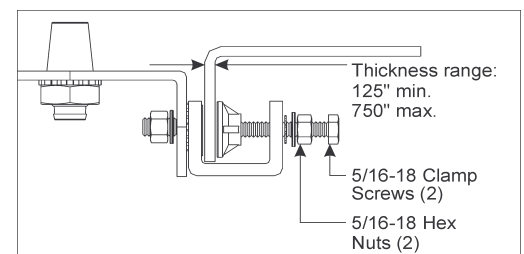

Figure 8- Mounting Location
11. Loosen two screws and two hex nuts in U-Bracket assembly. Note: Installation on tubular surface is NOT recommended. Insert Air Dam Shield edge between the U-Bracket Assembly and Clamp feet. See Figure 8.
13. Tighten two 5/16"-18 Hex Nuts securely up against clamp bracket, See Figure 8.